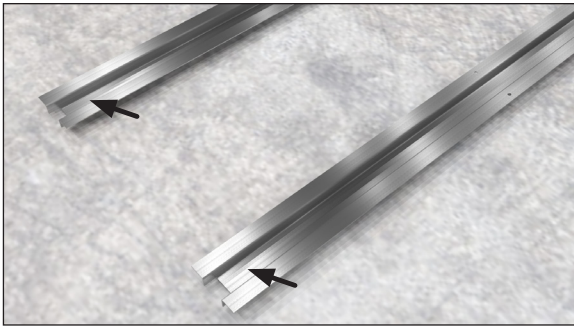

Fig. 3 Seismic anchoring locations (sled runners)
- (SLED RUNNERS) If necessary, drill a hole in each end of every horizontal support (Fig. 3) and fasten to the floor with concrete anchors. **Note: The holes do not need to be in the exact locations specified here. Be sure that the anchors are close to the end of the horizontal supports and at each corner of the case.**